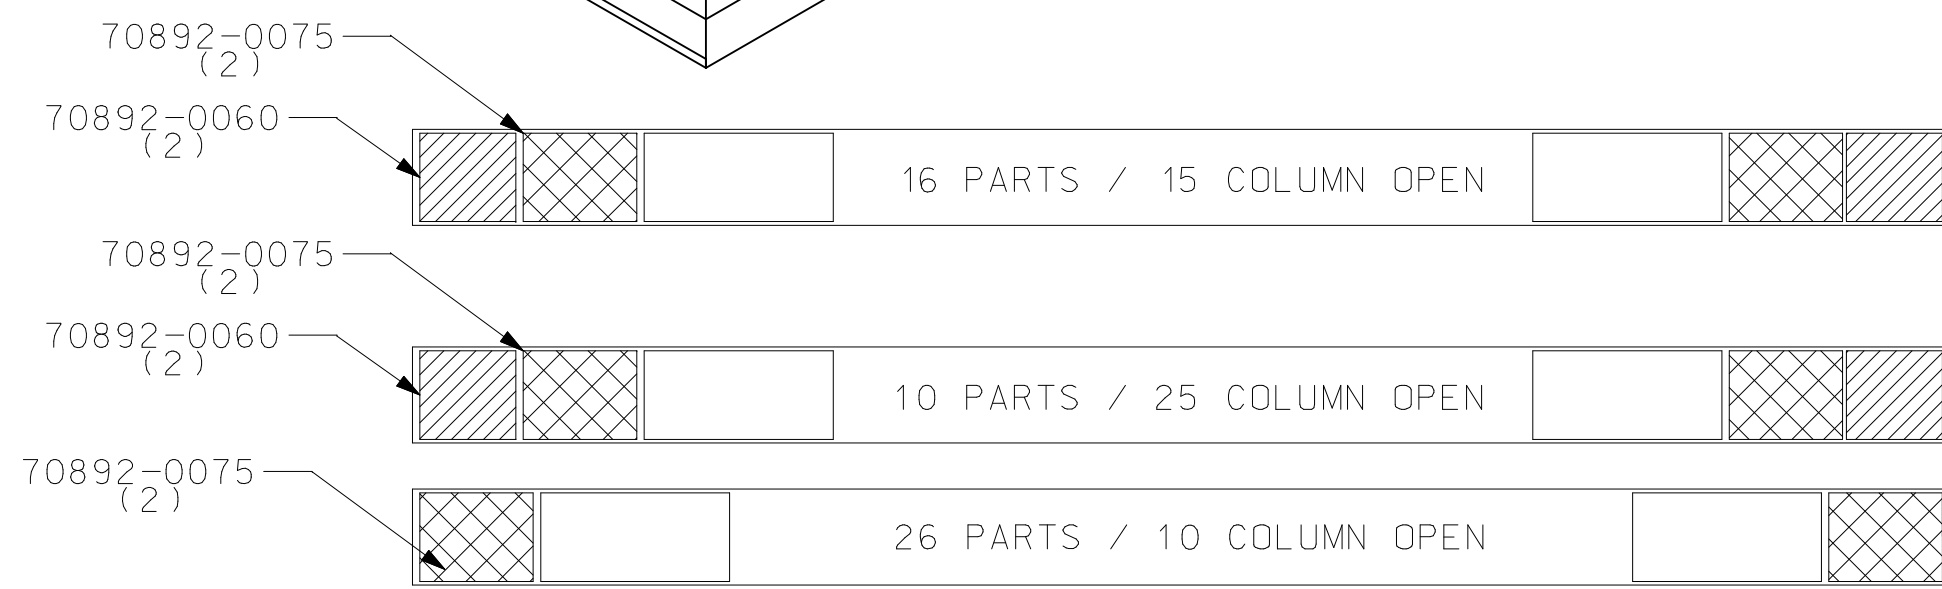

FIG. 1
- AFTER FILLING TUBES, THE 70892-0075 PLASTIC END PLUGS AND 70892-0060 FOAM END PLUGS MUST BE INSERTED AS SHOWN IN FIG 1. ASSEMBLED TUBE LENGTHS MUST NOT EXCEED 562mm.
- USE ONE (1) 70180-8700 WHITE TYVEK TUBE CLOSURE LABEL ON EACH END.
- SPQ AND MOQ EQUAL ONE (1) 1/4 SIZE CARTON.